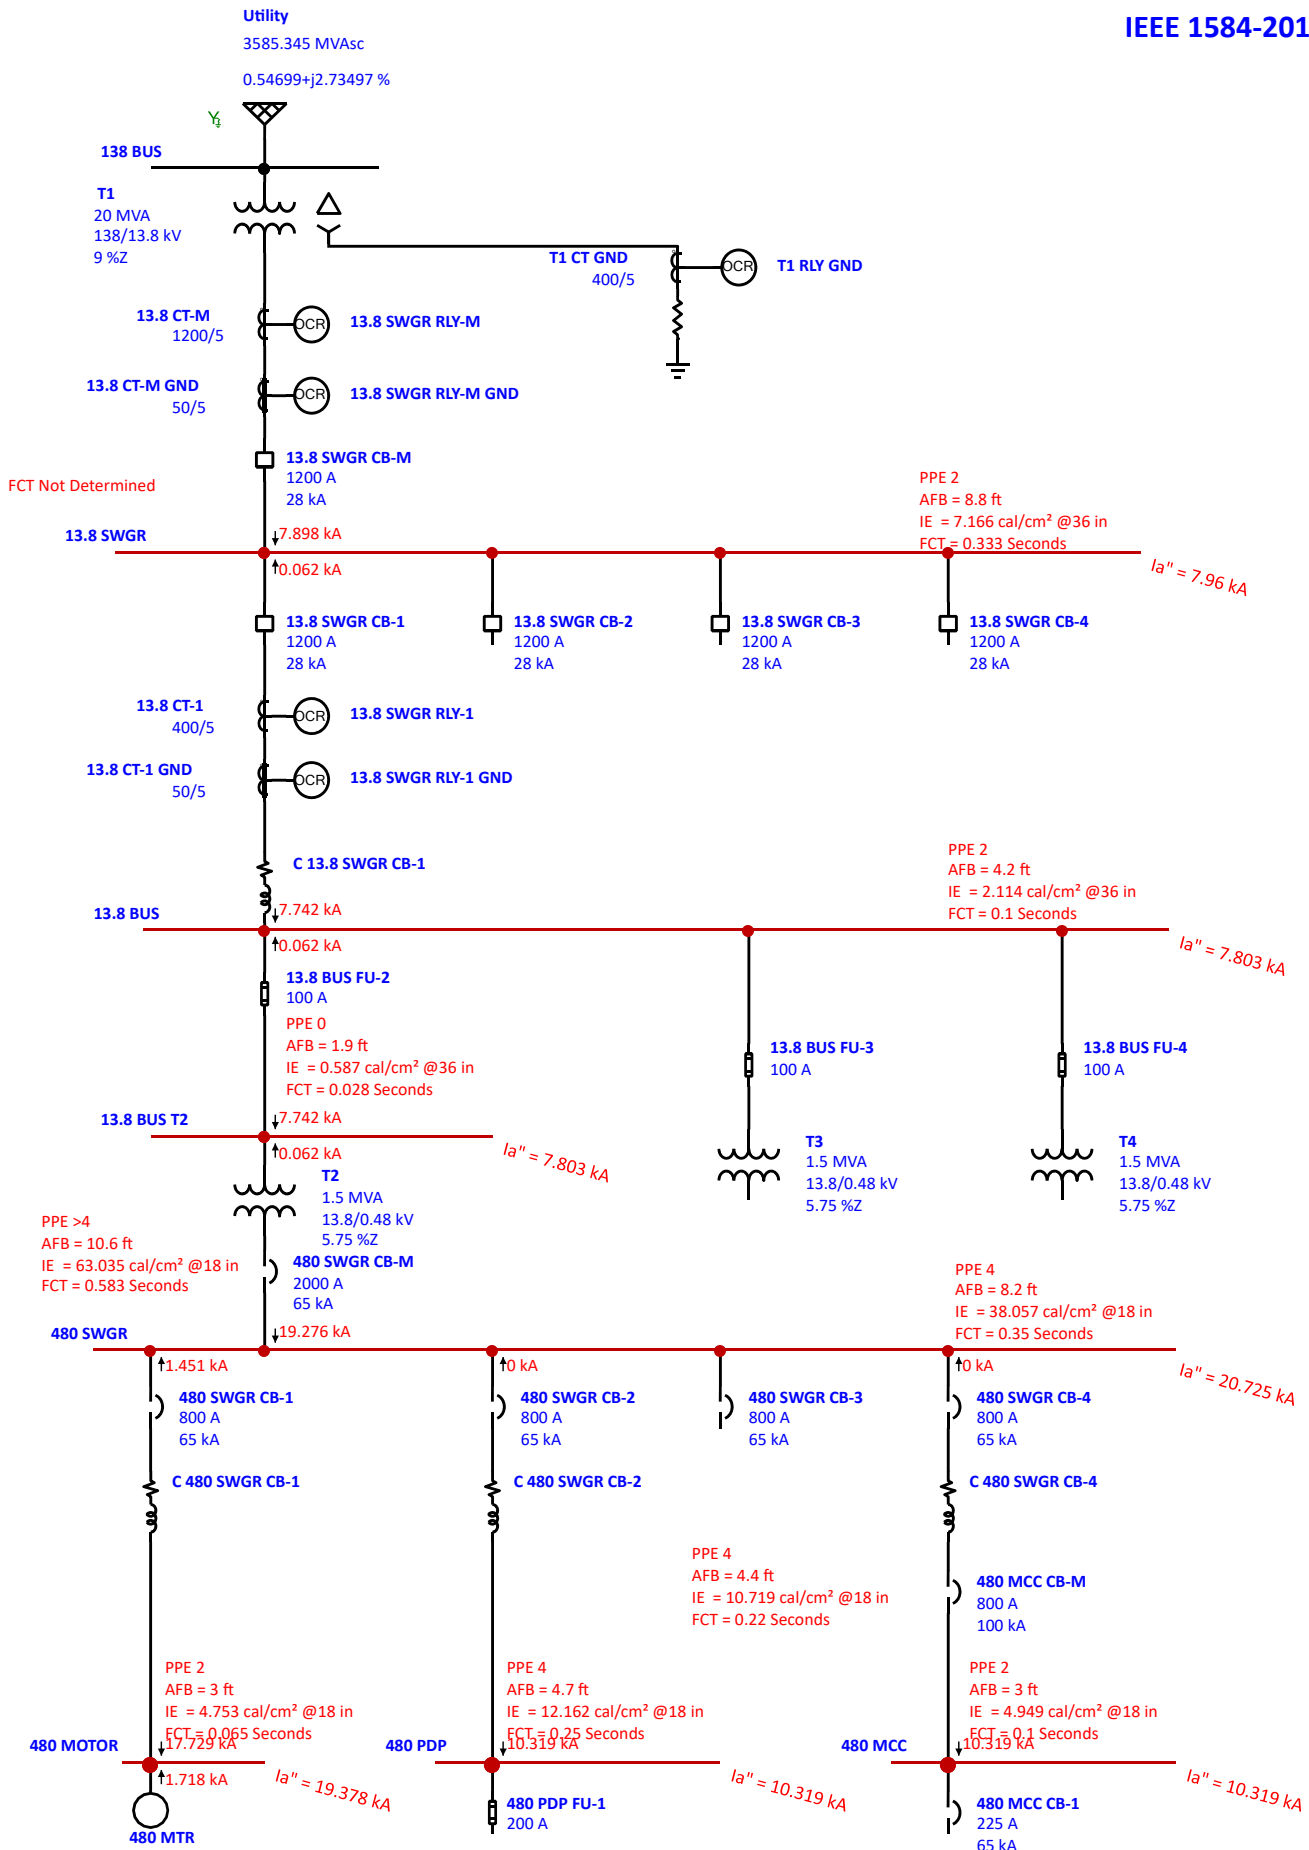

Figure 6
- Figure 6 IEEE 1584-2018 HCB Configuration